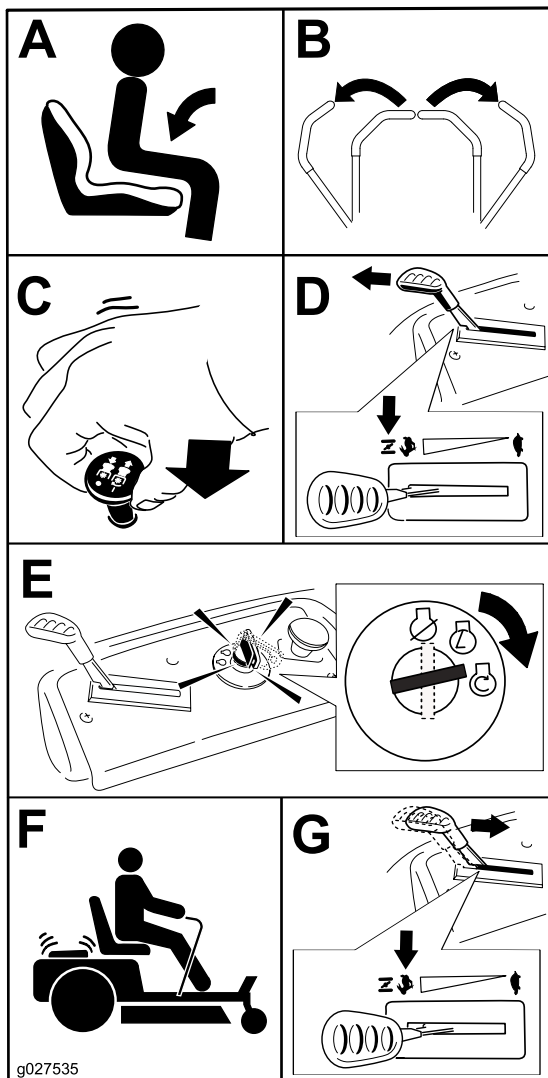

Figure 11
**Note:** It may be necessary to hold the lever against the stop, in the CHOKE position, while trying to start the engine (Figure 11).